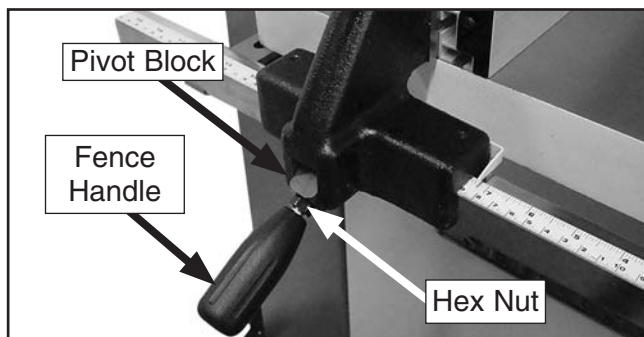

Figure 41. Fence handle components.
4. Thread the fence handle into the fence, then tighten the hex nut against the fence pivot block (see **Figure 41**).